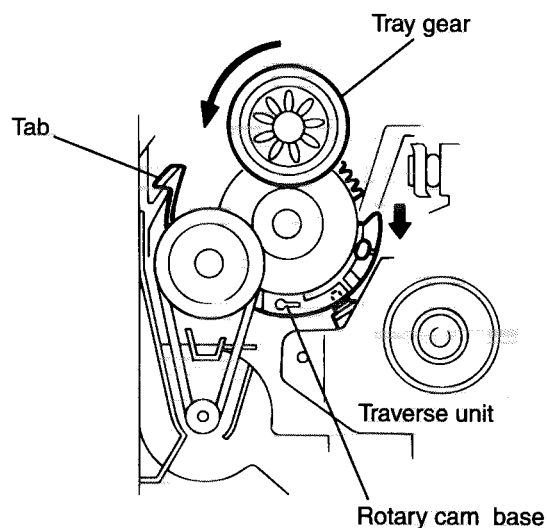

Fig. 15
■ Reassembling the Disc Tray (See Fig.15)